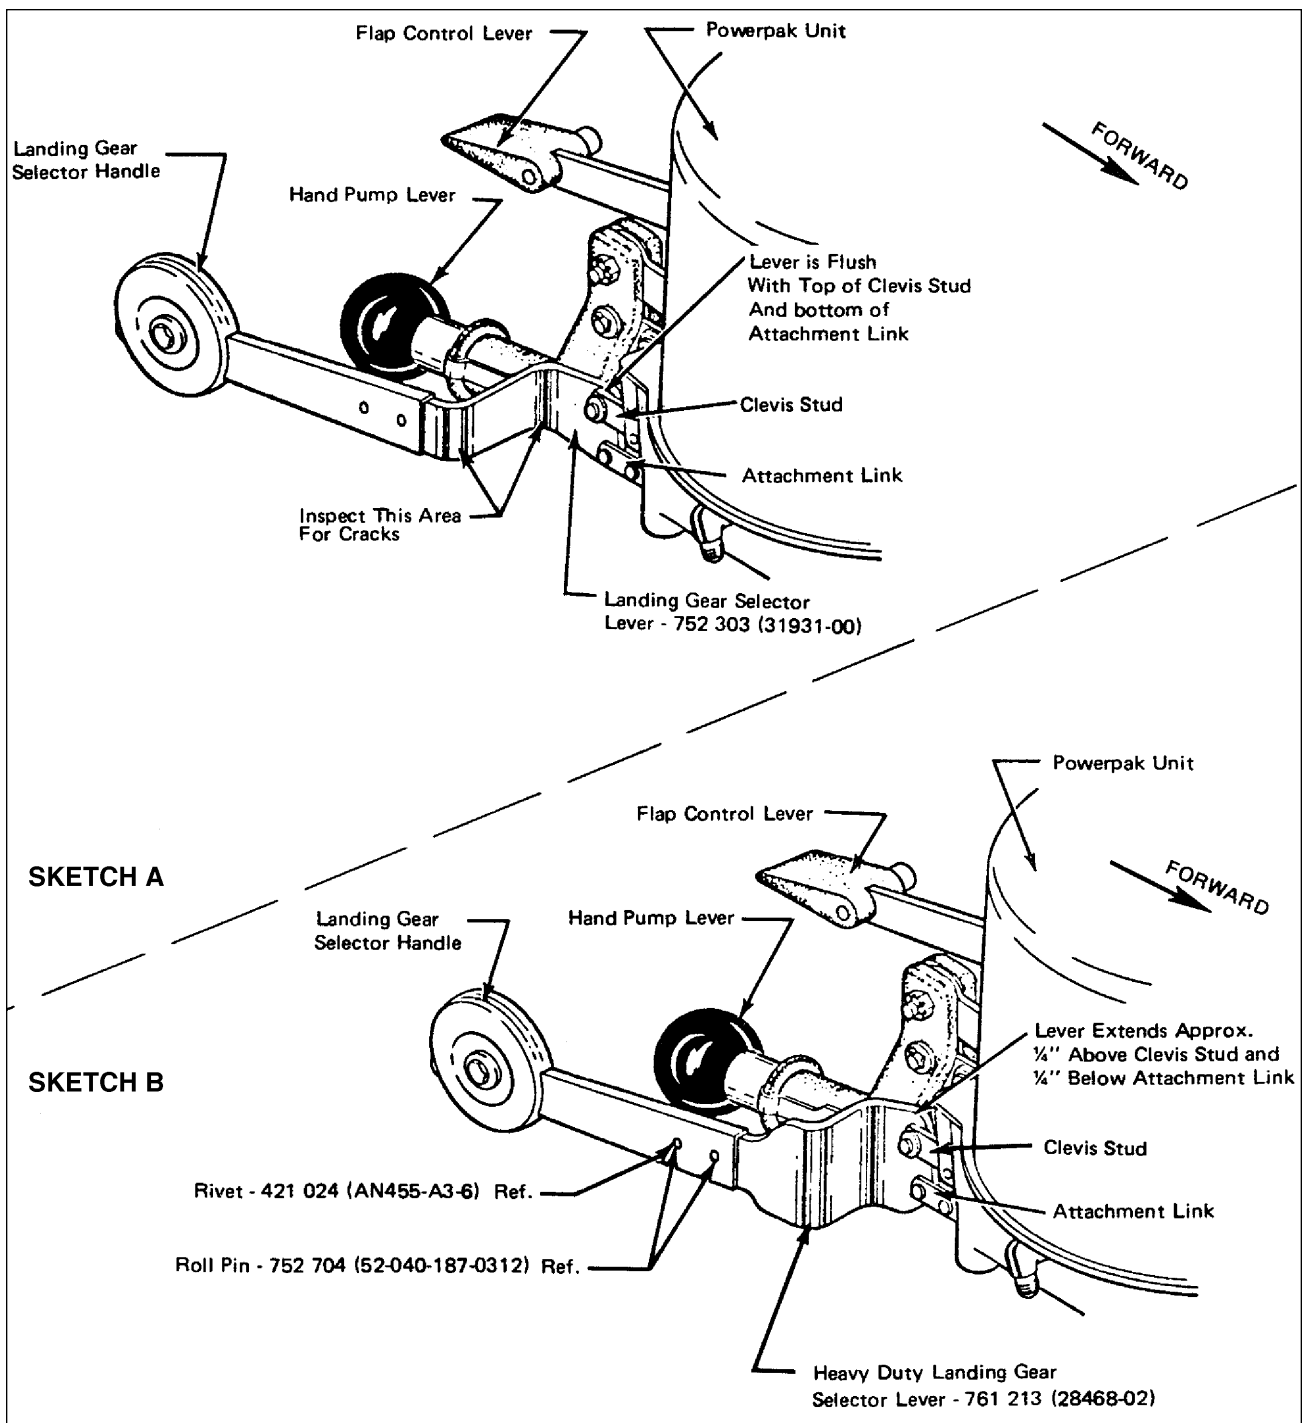

Figure 3-5. Landing Gear Selector Lever
- (b) See Sketches A and B in Figure 3-5 to verify which landing gear selector lever is installed in the airplane.